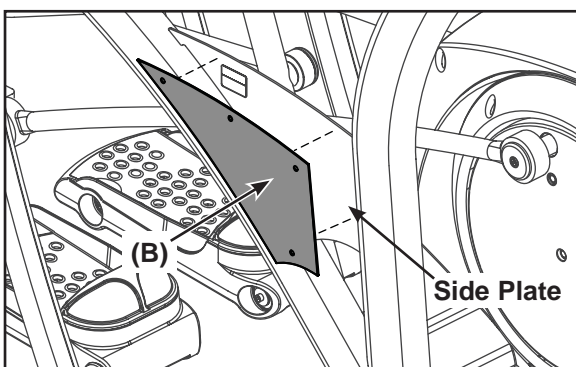

Figure 2
- A. Arm lock assembly, (1), 630A-150
- B. Locking assembly template, (1), 630A-345
- C. BHSCS .250-20 x .625, (3), HC620414
- D. Nylon locknut, (3), HN625200
- E. Washer SAE .250, (3), HS307600
- F. 9/32" Drill bit, (1), TE000009
- A. Attach locking arm template (B) to the outer right side plate and tape in place. See Figure 2.
- B. Using a drill and the 9/32" drill bit (F), drill four holes as shown on the locking arm template. See Figure 2.